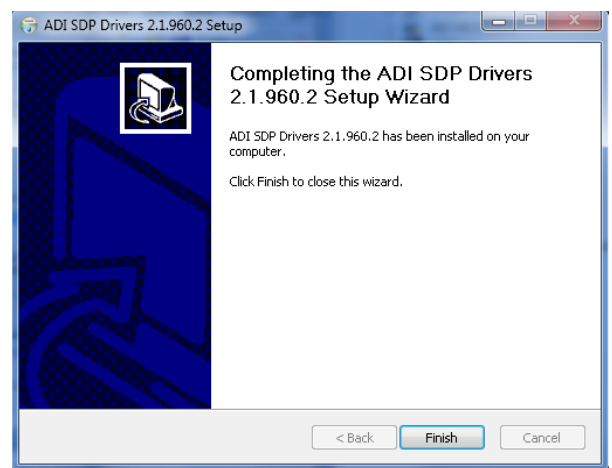

Figure 10. EVAL-SDP-CH1Z Drivers Installation—Complete
4. To complete the drivers installation, click **Finish**, which closes the installation wizard (see Figure 10).